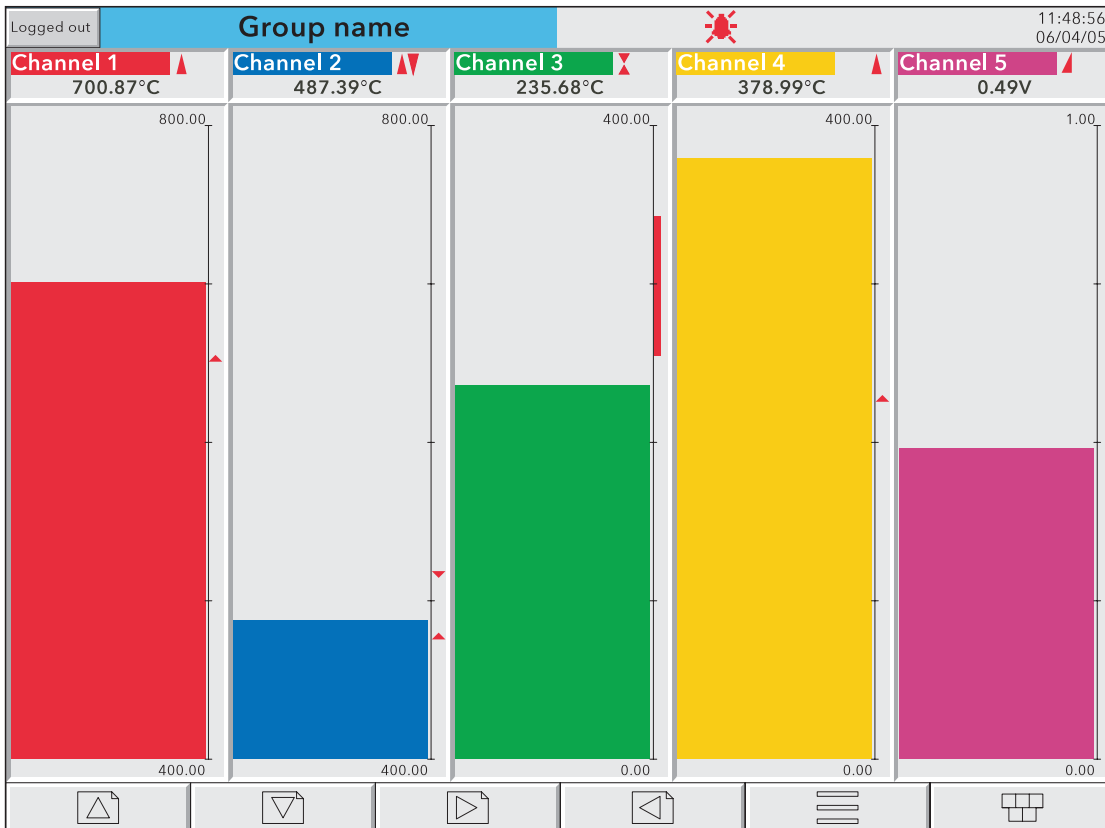
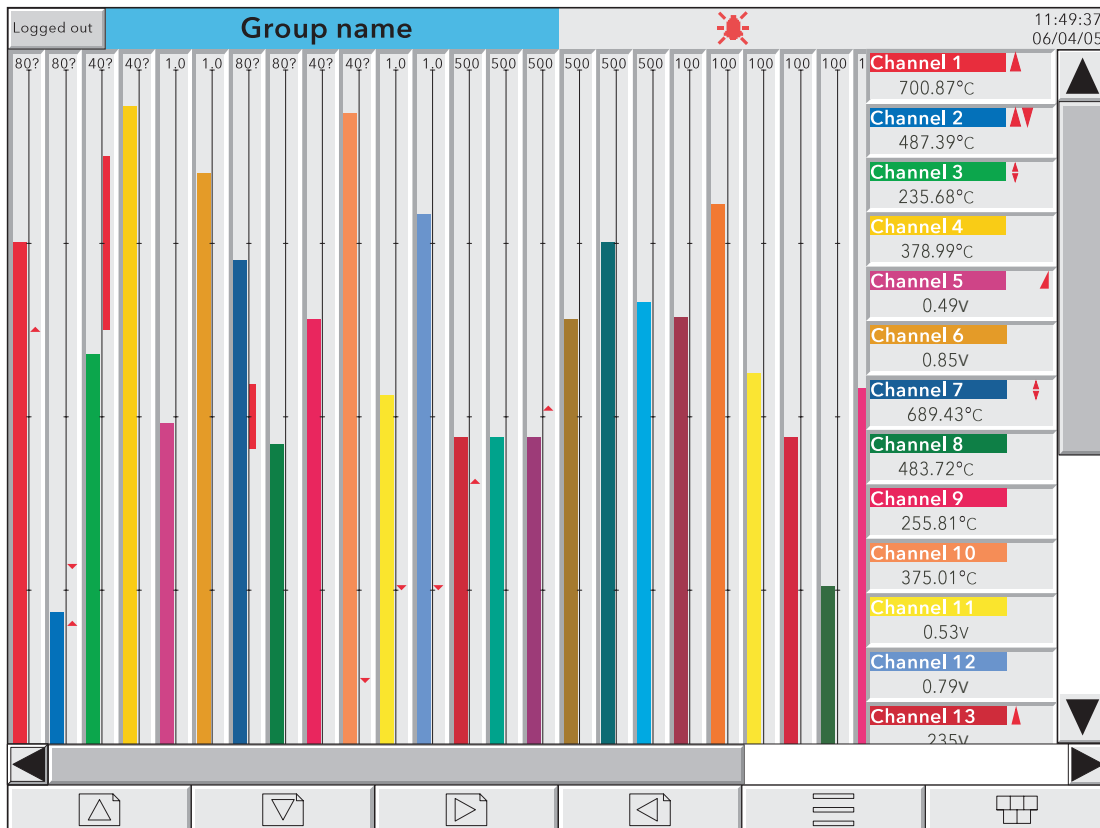

Figure 3.4.3a Vertical bargraph display (1 to 6 channels)
Figure 3.4.3b Vertical bargraph display (more than 6 channels)
Entered from Horizontal trend mode by means of the down arrow key, or selected from the Root Menu 'Goto View' key, this display mode shows the Process Variable (PV) values as vertical bars with faceplates containing digital values and alarm data. There are two versions, one with faceplates above the bars (1 to 6 channels - figure 3.4.3a); the other (with faceplates at the right hand edge of the display - figure 3.4.3b) is used where there are more than six channels.
See figure 3.4.3a.
See figure 3.4.3b.
As the number of PVs increases, the bars get narrower. As the bars get narrower, so the scale values become truncated as shown in figure 3.4.3b. The bars have a set minimum width, and if the total number of points in the group cannot be displayed within the width of the screen, a horizontal scroll bar appears, allowing 'hidden' bars to be viewed. Similarly, the faceplates reduce in height to a minimum readable height. If there are more point faceplates than can be accommodated within the height of the screen, a vertical scroll bar appears, allowing hidden faceplates to be displayed as required.